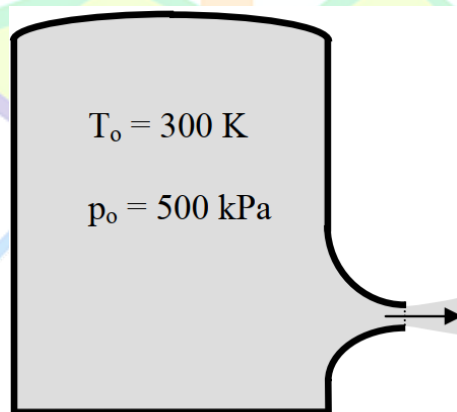

Figure 2
7. Oil flows between two parallel plates, one of which is at rest and other moves with a velocity U . (a) If the pressure is decreasing in the flow direction at a rate of 10 Pa/m, the dynamic viscosity is 0.05 kg/m s, the spacing of the horizontal plate is 0.04 m and the volumetric flow (Q) per unit width is 0.03 m²/s, what is the velocity U ? (b) Calculate U if the pressure is increasing at a rate of 5 Pa/, in the direction of flow.
9. a. Compressed air is discharged through the converging nozzle as shown in figure 2. The tank pressure is 500 kPa and local atmospheric pressure is 101 kPa. The inlet area of nozzle is 100 cm²; the exit area is 34 cm². Find the force of the air on the nozzle, assuming the air to behave as a perfect gas with constant $\gamma=1.4$. Take the temperature in the tank to be 300 K. You may assume that nozzle is choked and isentropic flow. (6 marks)